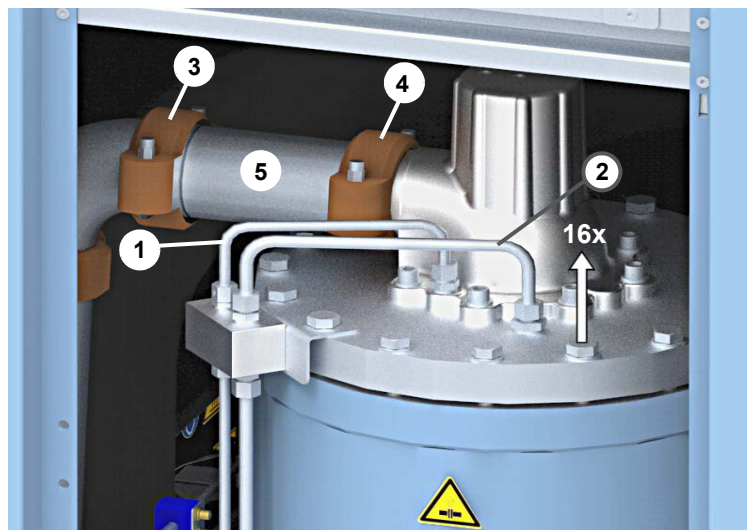

Fig. 6.16: Drainage pipe, ventilation pipe, air pipe and receiver screws
2. Completely unscrew the drainage pipe (1) (figure 6.16).
3. Completely unscrew the ventilation pipe (2) (figure 6.16).
4. Unscrew the flexible couplings (3+4) on the air pipe (figure 6.16).
5. Completely remove the section of the air pipe (5) (Figure 6.16).
6. Unscrew all 16 screws on the compressed air-oil receiver lid (arrow in figure 6.16).